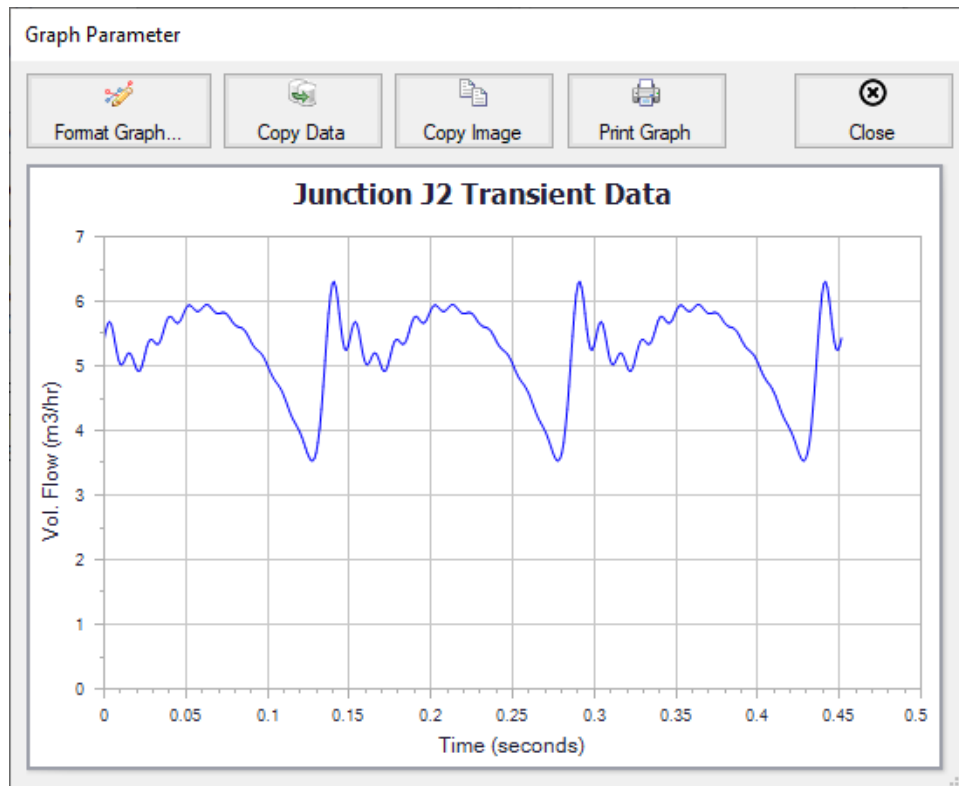

Figure 16: New Assigned Flow transient representing the PD Pump operating at 133 RPM
- f. The scenario will now have different transient information in J2, modeling the pump performance at 133 RPM. Go to the Workspace and open the Properties window for J2. On the Transient tab click Show Graph under the Transient Data table to verify the Pump Flow Forcing Function has been applied, as shown in Figure 16.